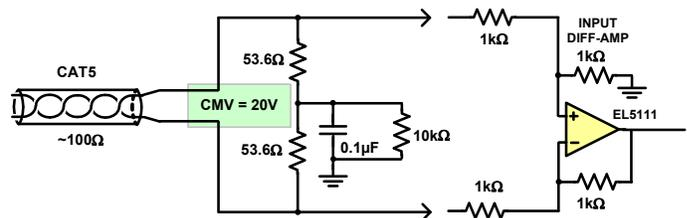
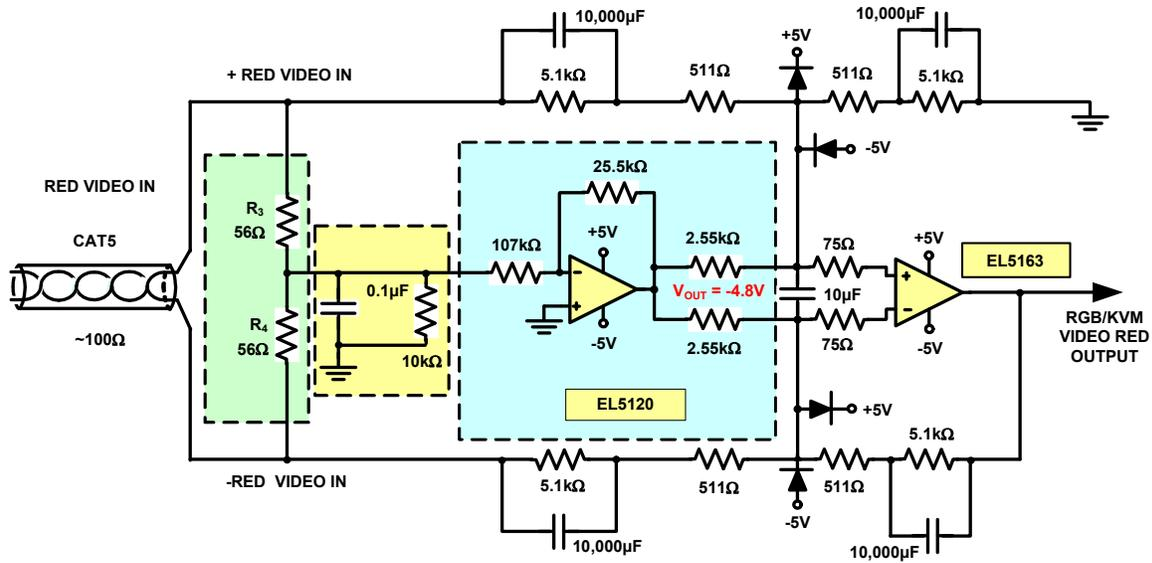

FIGURE 4. $\pm 6V$ CMV CIRCUIT
FIGURE 10. RED OF RGB/KVM ACTIVE CMV CANCELATION
2. **NTSC Video Resistor Diff-Amp with $\pm 6V$ to $\pm 20V$ CMV** - The second circuit, Figure 4, is based on a CMOS amp, EL5111, using feedback resistors and input series resistors to form the resistor diff-amp. This circuit will increase a typical diff-amp CMV to $\pm 6V$ CMV.
Note: (Figure 4) NTSC/PAL - Why 53.6 Ω vs 50 Ω ? To insure Input Impedance is maintained at 100 Ω . The diff-amp 1k Ω input and feedback resistors were used for low noise and stable amp operation, yet the input resistors appear as a 1k Ω load to the cable. To maintain 50 Ω load to the Cat 5 cable, we change the cable input series termination to 53.6 Ω and the overall parallel input impedance value is 100 Ω at high frequency.
Why the 5.1k series resistor (Figure 10, R₁ and R₂)? The RGB high CMV amp needs higher input impedance at 50Hz to 60Hz to prevent excess CMV current load. The peak CMV current is now 3.3mA per each input line for a total of 6.6mA of CMV current.
Note: (Figure 10, R_3 and R_4) RGB/KVM - Why 56Ω vs 50Ω? To insure Input Impedance is maintained at 50Ω. For the same reason as in Figure 4, we change the cable input series termination to 56Ω and the overall parallel input impedance value is 50Ω at high frequencies.